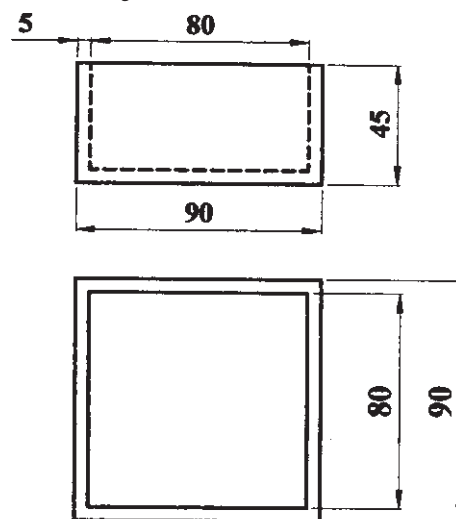

Fig. 7 : Injection moulding job
- Q11)** Design single impression injection mold for the PVC component shown in figure 7. [18]